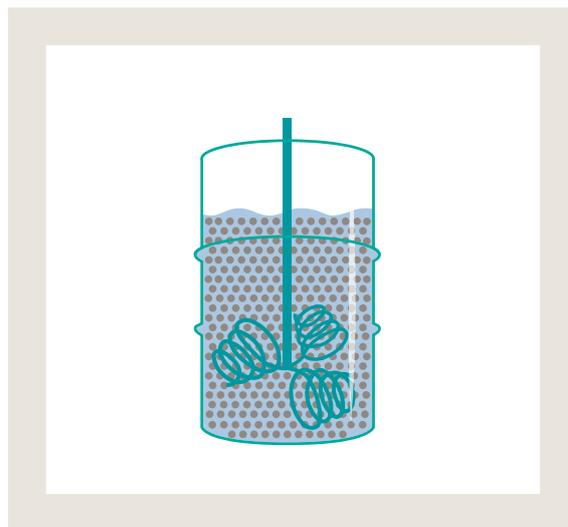

Figure 1
1. Stir the catalyst in the drum to form an easy to pour slurry. (Figure 1)